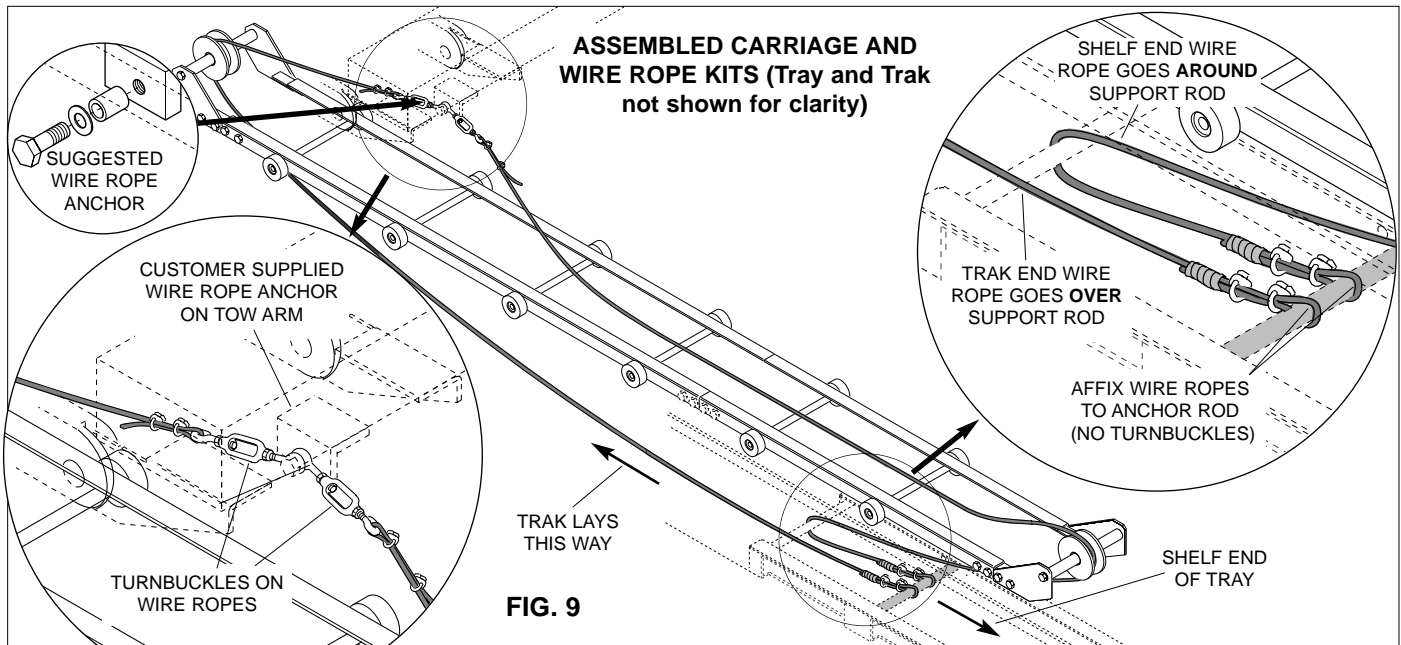

FIG. 9
STEP 3: Attach wire ropes to anchor rod (with plastic sleeve) in guide tray (See Fig 9). Run one wire rope **over** support rod, toward trak, around sheave at trak end of carriage assembly and up to anchor on tow arm. Run other wire rope under support rod then back over rods, toward shelf end, around sheave, and over carriage to anchor on tow arm. Attach turnbuckles to tow arm as shown. Adjust length of turnbuckles to 12" (305mm) overall. **DO NOT PULL WIRE ROPES TIGHT AT THIS TIME.**